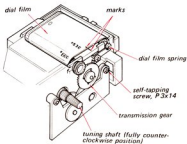

Fig. 2-8.
- ① Set the tuning shaft at fully counterclockwise position.
- ② Put the dial film ass'y in place and align the marks on the dial film and dial film chassis as shown in Fig. 2-8.